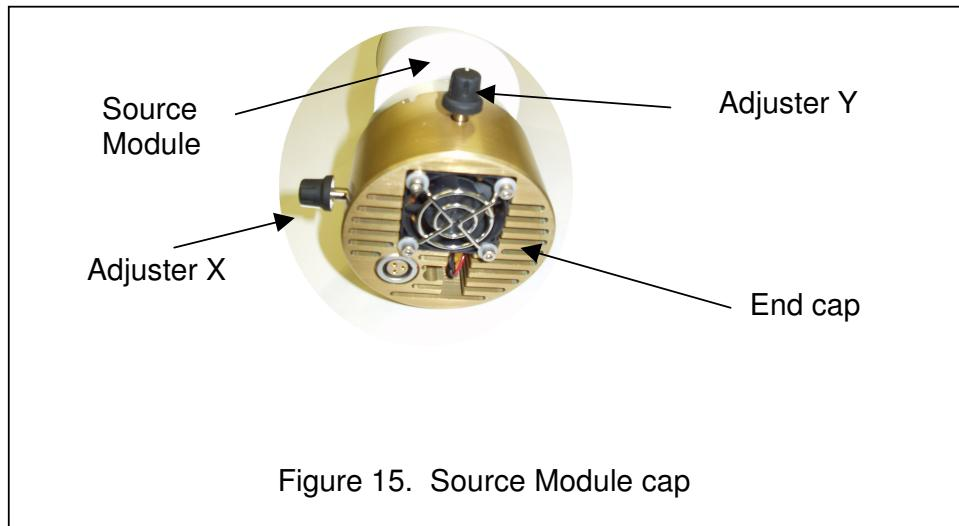

Figure 15. Source Module cap
Step 2) To remove the end cap hold the main body of the Source Module in one hand and rotate the end cap anticlockwise (viewed from the end cap) pushing gently at the same time in the direction of the main body to release the cap. See Figure 15.